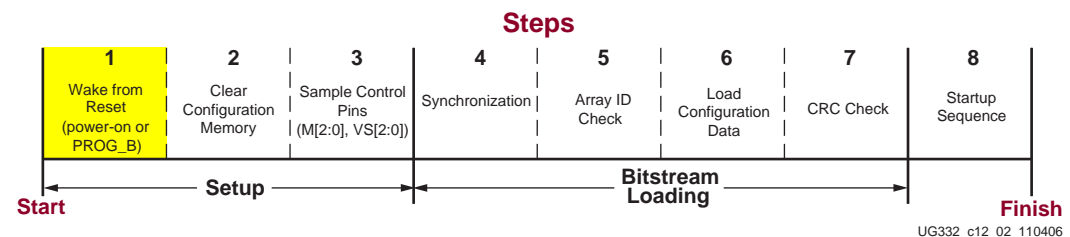

Figure 12-2: FPGA Wake from Reset
1. Hold the **PROG_B** pin Low, which holds the FPGA in reset, Step 1 shown in Figure 12-2, page 231.